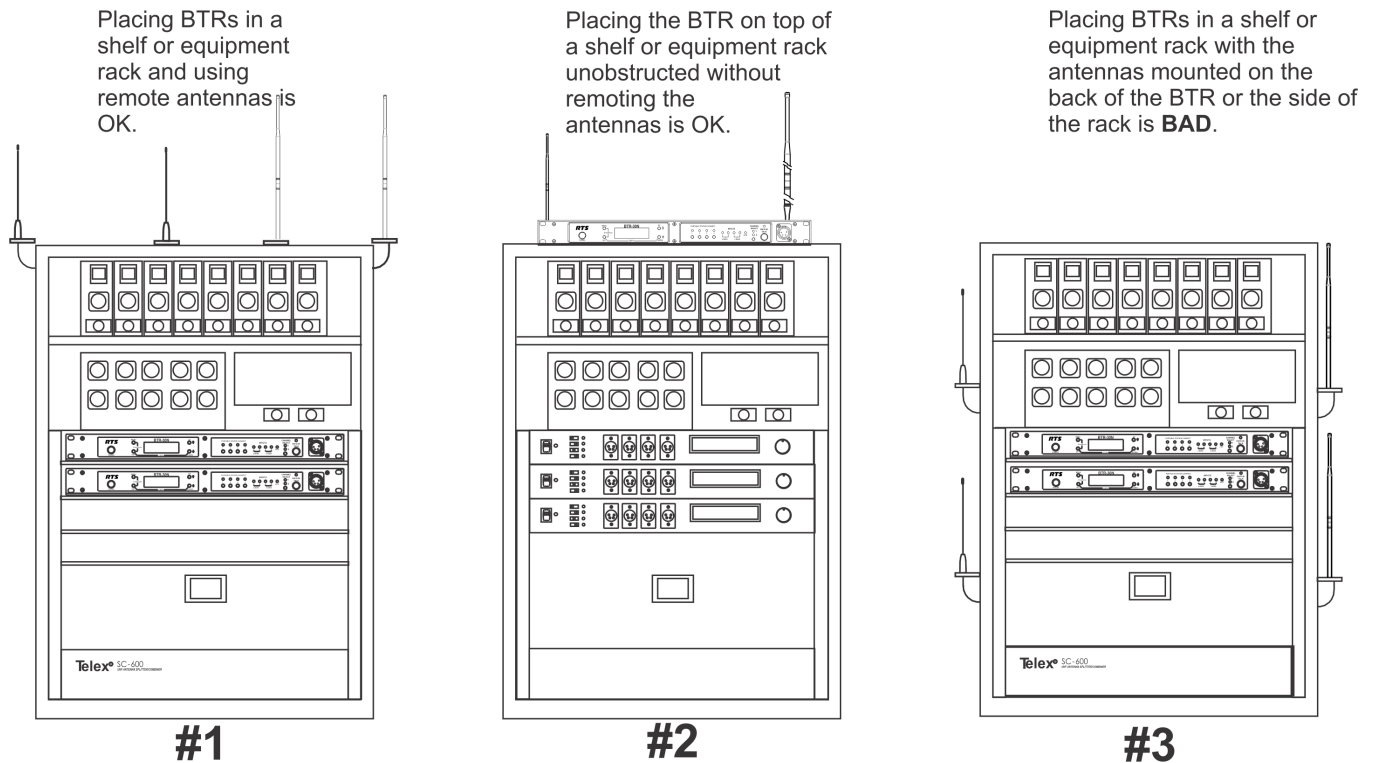

FIGURE 17. Antenna Placement
**IMPORTANT:** DO NOT mount the base station antennas on or next to: metal, such as beams; walls with metal studs; or equipment racks, etc. This also applies to antennas assembled directly to the Base Station. Mounting antennas near metal detunes the antennas, which can result in noise or loss of RF signal at the Base Station. See Figure 17.